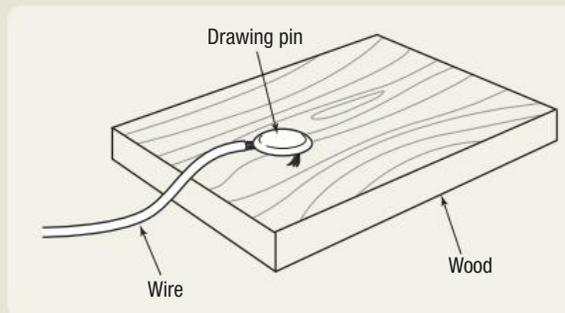

Figure 8.17 Drawing pin pressed firmly onto a piece of wood
- 1 Press a drawing pin with connecting wire into the block of wood, as shown in Figure 8.17.